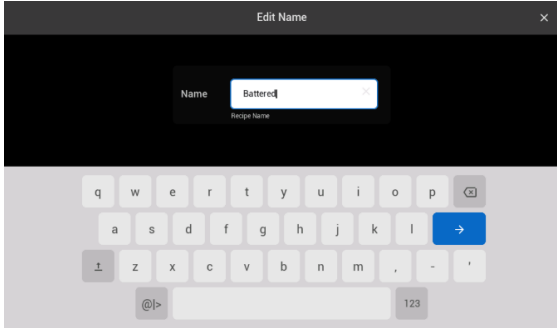

Figure 33 – Edit Group Name Keypad
- Select **Group Name** and the screen will transition to a keypad **Figure 33**